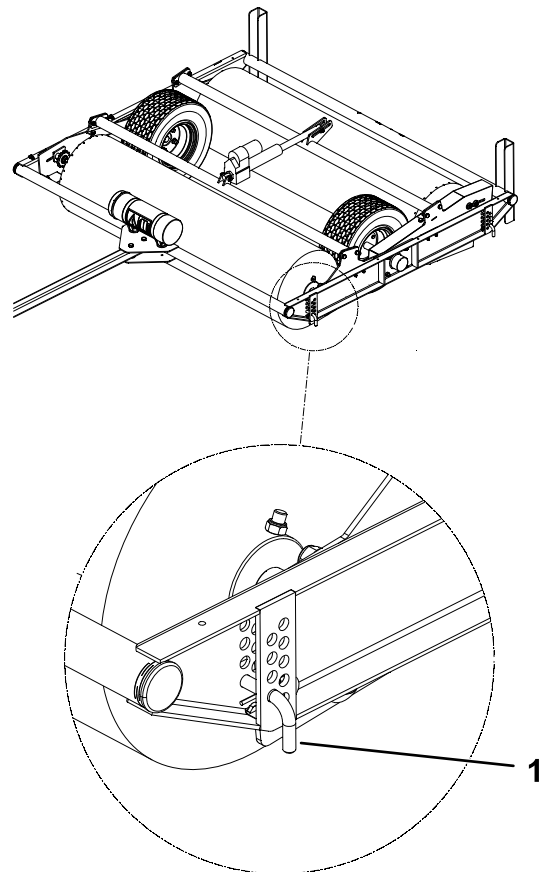

Figure 10
**Important:** Remove the hairpin cotter and pin from both ends of each brush before raising and lowering the brushes (see Figure 10). Install them to the highest position beneath the brushes.